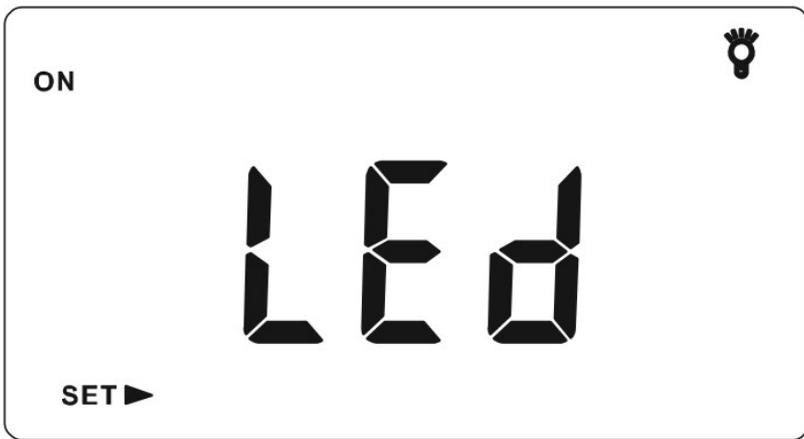

Figure 1
2. Backlight setting function Long press "SET" for 2 seconds to enter backlight setting interface in the "CUR" display interface. It will display "LEd" after entering the interface, and the "ON or OFF" is flickering (as shown in **Figure 1**). At this time, we can select to turn "ON or OFF" by pressing "▲" or "▼" momentarily, and after selection, press momentarily the "OK" to exit setting. If one selects "OFF" and the instrument has no button operation in 10 seconds, the backlight will automatically off (fault factory setting); if one selects "ON", the backlight is always on.